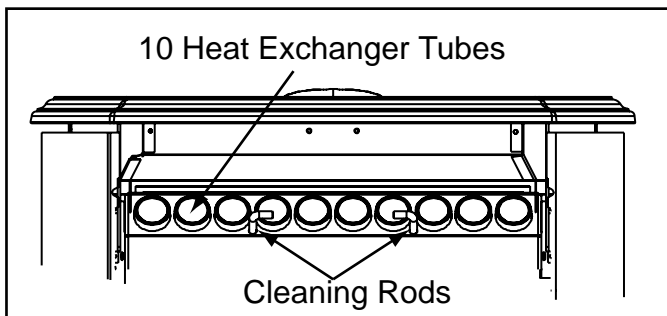

Figure 3.1
1. Locate the 2 rods directly underneath the heat exchanger tubes. **Figure 3.1.**